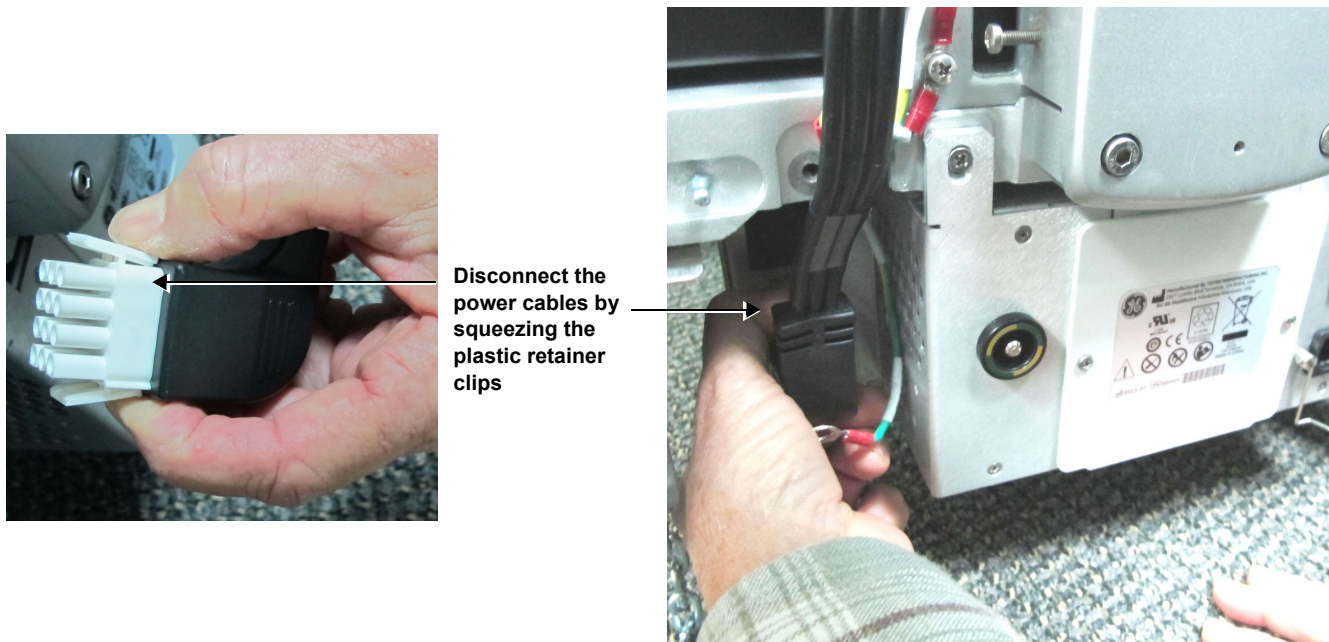

Figure 8-199 Plastic Securing Clips on Power Cables
- 3.) Unplug the power cable (seen in Figure 8-199) from the AC Box by squeezing the plastic retainer clips inwards as shown in on the left and pull the connector outwards.
- 4.) Unplug the Peripherals power cable (not visible in Figure 8-199).